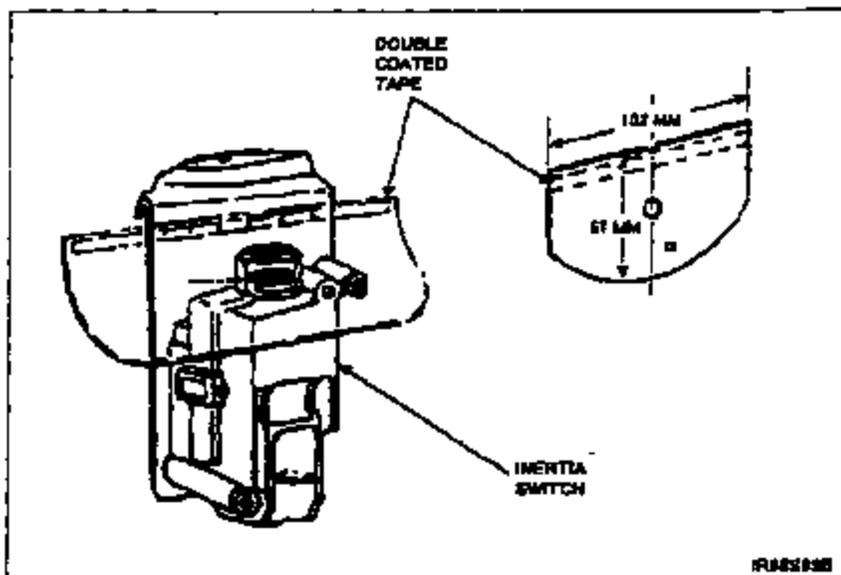

Figure 4
- b. Install the cover on the inertia switch. See Figure 4.